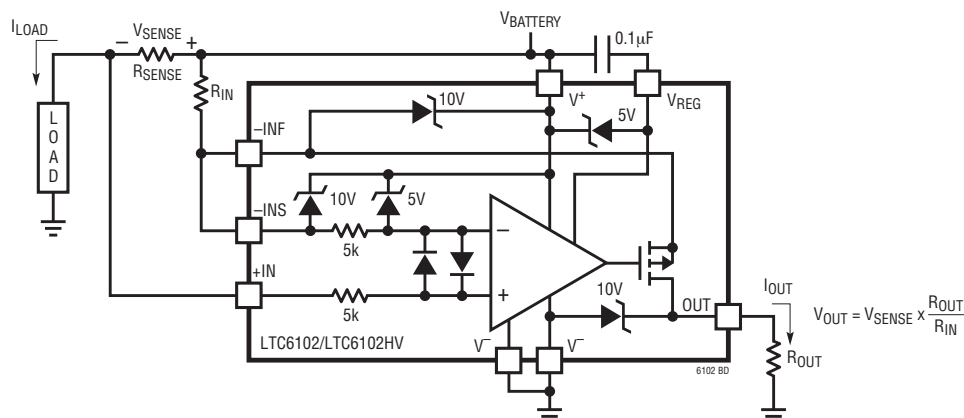

Figure 1. LTC6102/LTC6102HV Block Diagram and Typical Connection
**ELECTRICAL CHARACTERISTICS** (LTC6102HV) The ● denotes the specifications which apply over the full operating temperature range, otherwise specifications are at  $T_A = 25^\circ\text{C}$ .  $R_{IN} = 10\Omega$ ,  $R_{OUT} = 10k$ ,  $V_{SENSE}^+ = V^+$  (see Figure 1 for details),  $V^+ = 12V$ ,  $V^- = 0V$  unless otherwise noted.
The LTC6102 high side current sense amplifier (Figure 1) provides accurate monitoring of current through a user-selected sense resistor. The sense voltage is amplified by a user-selected gain and level shifted from the positive power supply to a ground-referred output. The output signal is analog and may be used as is or processed with an output filter.